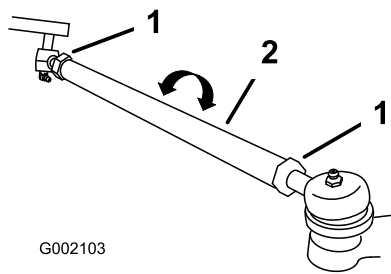

Figure 30
3. If the measurement does not fall within the specified range (refer to the dimensions and parameters at the beginning of this procedure), loosen the jam nuts at both ends of the tie rods (Figure 30).